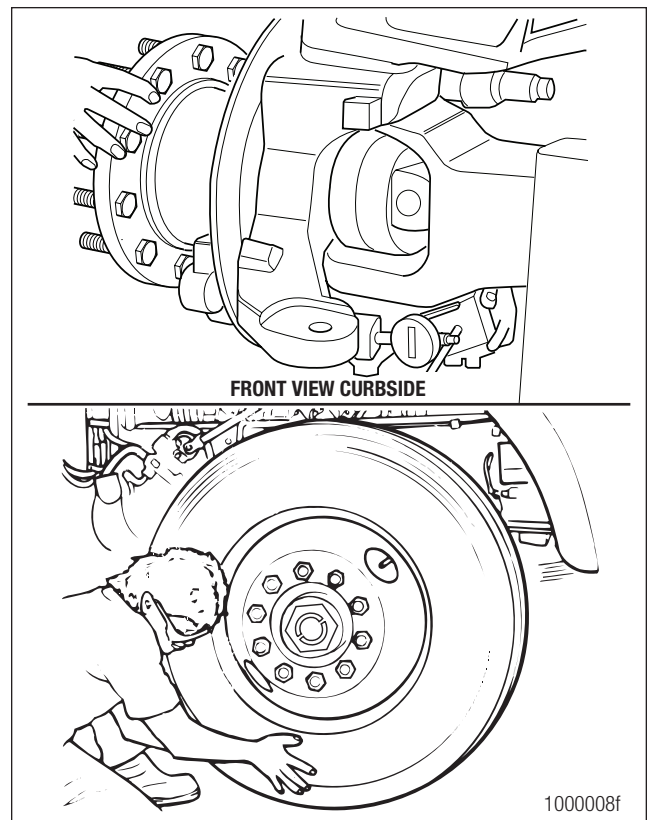

Figure 11.9
6. Check the lower king pin bushing. Install a dial indicator so that the base is on the I-beam and the tip is against the side of the bottom of the knuckle. Figure 11.9.
**If the dial indicator moves a total of 0.010-inch (0.254 mm):** The lower bushing is worn or damaged. Replace both bushings in the knuckle. Refer to Section 4 Removal and Disassembly – MX-120 and MX-120-HR Series on page 13, Section 6 Prepare Parts for Assembly on page 28 and Section 7 Assembly and Installation – MX-120 Series on page 36. Figure 11.9.